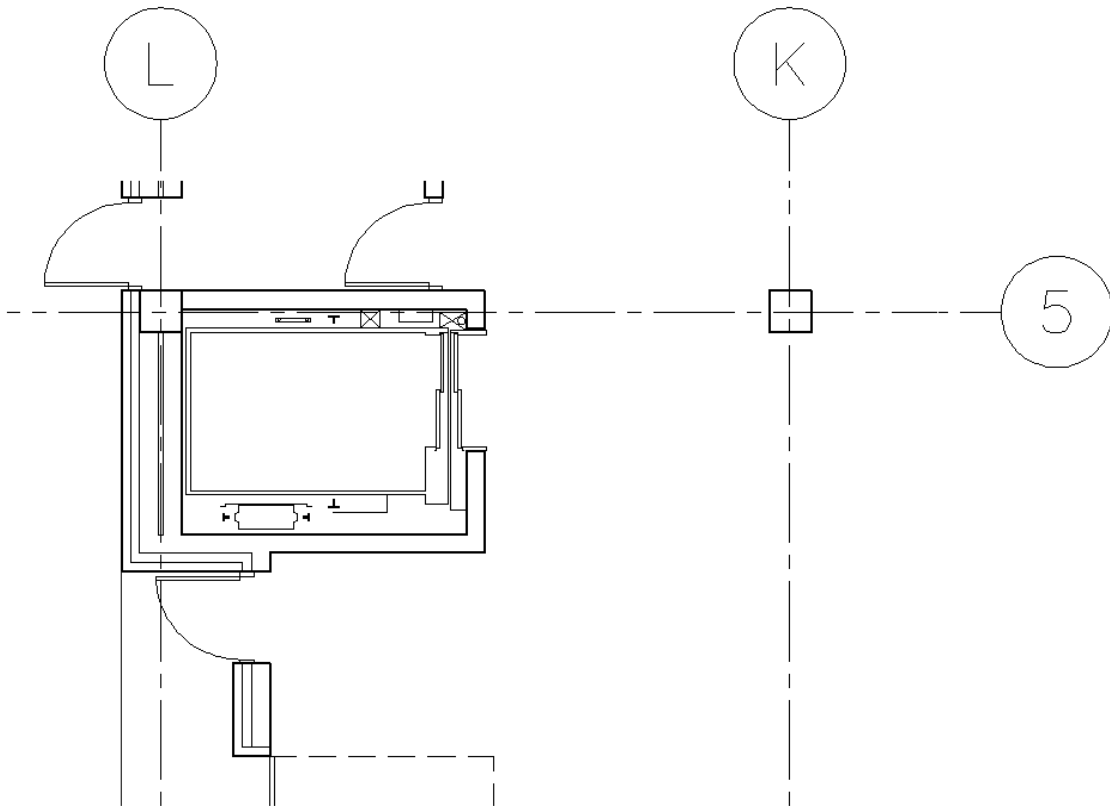

Figure 4-3.12 Service elevator added to plan
30. Place the service elevator per **Figure 4-3.12**, plus: